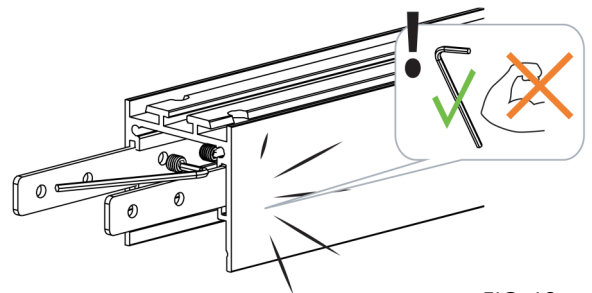

FIG. 19
- NOTE: Do not over fasten— this may cause visible damage on the outside of the fitting (Fig. 19).